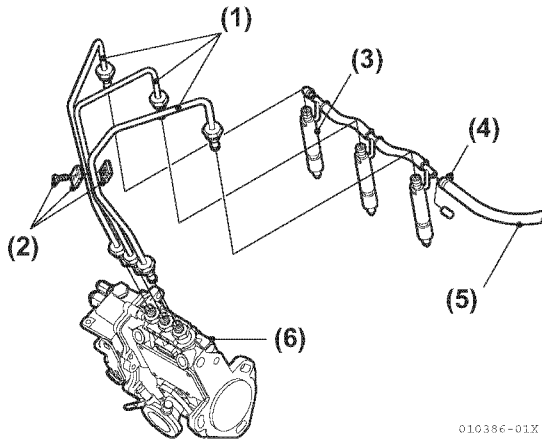
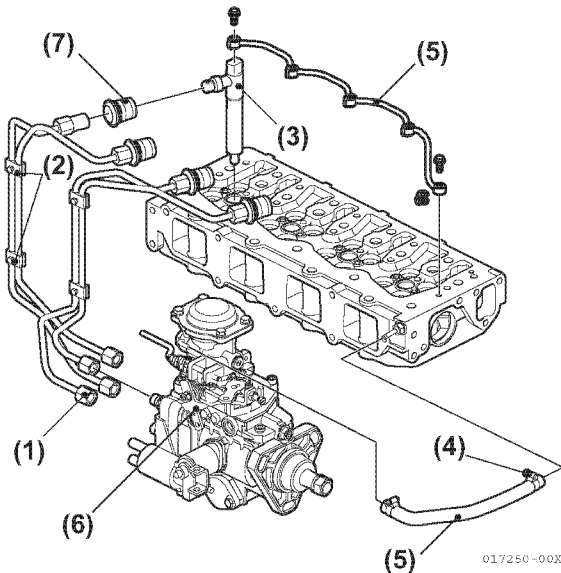

Figure 6-15
Figure 6-16
- Loosen retainer bolts on fuel injection line(s) (Figure 6-15, (3)) and (Figure 6-16, (2)).